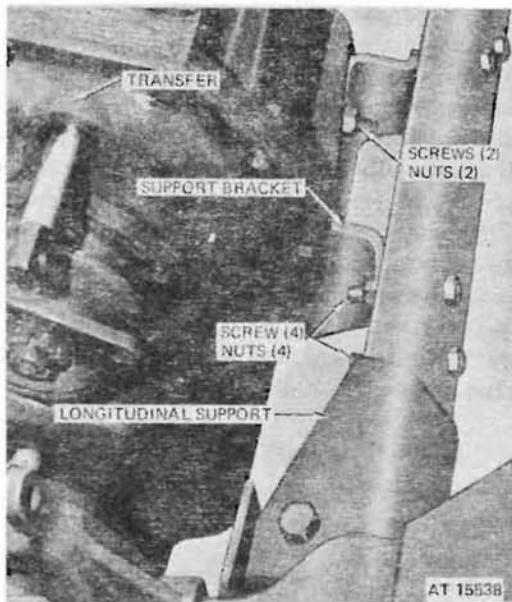

Figure 427.5. Left side transfer mounting.
(i) *Release left side transfer support.* Remove four 1/2 x 2 3/4 inch-hex-head cap screws to release the left side transfer support bracket from the longitudinal support (fig. 427.5).
support at brackets on frame crossmember. Pull out screw and remove second insulator from under flange of longitudinal support. Repeat procedure to release end of longitudinal support at opposite frame crossmember bracket. Remove longitudinal support (fig. 427.5).
(b) *Install left side support bracket.* Position the left hand support bracket on 4 transfer mounting studs and secure with four ½-inch self-locking hex-nuts (fig. 427.5). Torque to 125-135 ft. lbs.
2. Secure the longitudinal support to the left hand transfer support bracket with four ½ x 2¾ inch hex-head cap screws and four ½-inch self-locking hex-nuts (fig. 427.5). Torque to 65-70 ft. lbs.